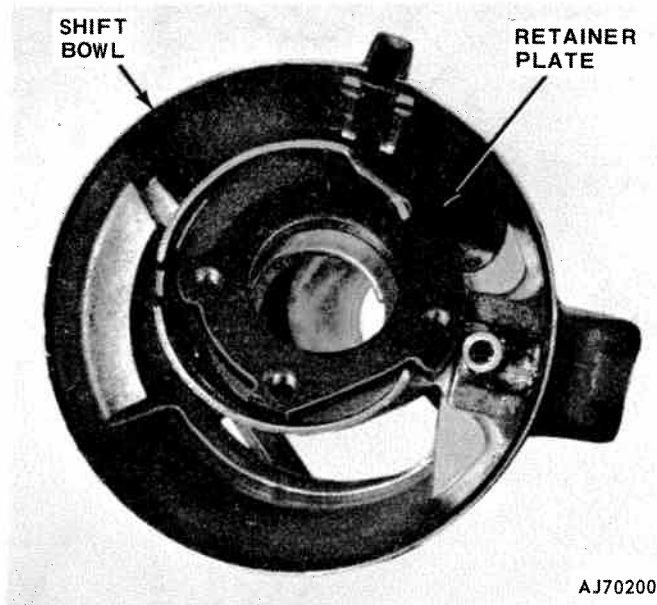

Fig. 11-26 Retainer Plate Removal
(40) Remove retainer plate by rotating shift bowl clockwise, sliding plate out of jacket notches, tipping it down toward shift bowl hub at the 12 o'clock position and removing bottom side of plate first (fig. 11-26).
(41) Remove wave washer, tube spring, and shift bowl from column.
(42) If column is in car, remove instrument panel lower finish panel.